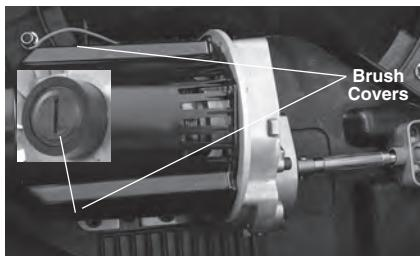

Figure 21 – Inspecting/Changing Motor Brushes
2. Use a screwdriver to remove the brush cover, *Figure 21*. Remove brush and inspect. If there are any signs of damage or shorter than ½" (13 mm), replace brushes.